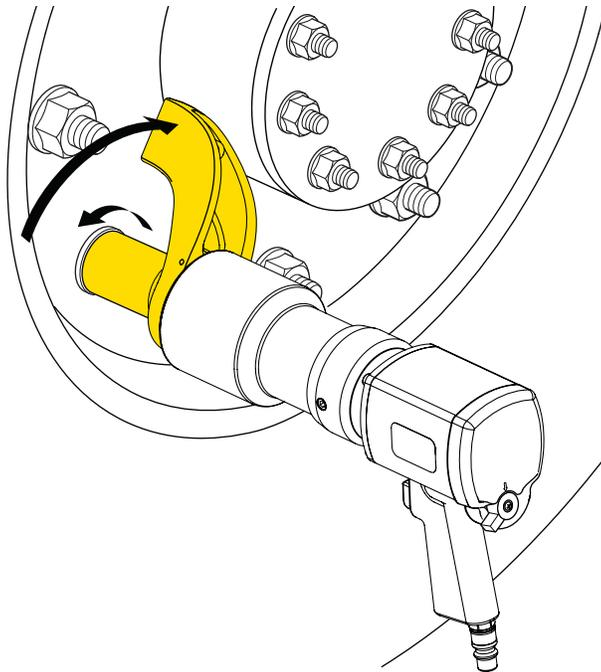

Fig. 9
9. Fig. 9 shows the position for the reaction arm when the square drive rotates counterclockwise.
12. To loosen a fastener (or to apply torque in the counterclockwise direction): Be sure that the adjustment lever is set to the “R” position and that the reaction arm is positioned as shown in Fig. 9. Then, fully depress the trigger and keep it depressed until the fastener loosens.